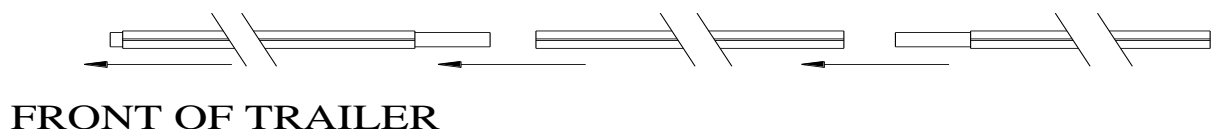

Figure 9
1. Layout the three axle pieces, as shown in figure 9. Try to get the motor adapter end of the axle pointing toward the front of the trailer. (The motor end will have a "star shaped" plug in it.)
2. Slide the three pieces together. Make sure that the clip groove in the axle lines up in all sections. Refer to figure 9.